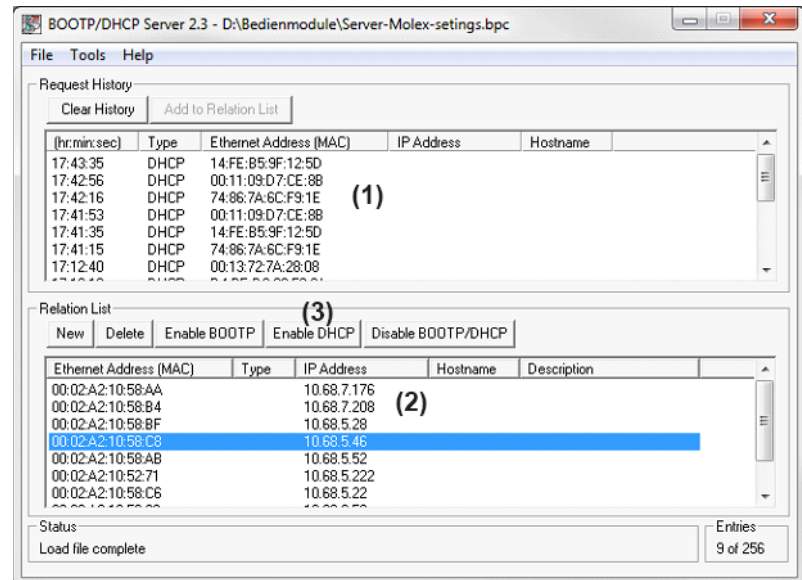

Fig. 6.12: BOOTP/DHCP server with list of IP addresses
The assigned IP addresses are displayed in the list (2) (Relation List). (Fig. 6.12).